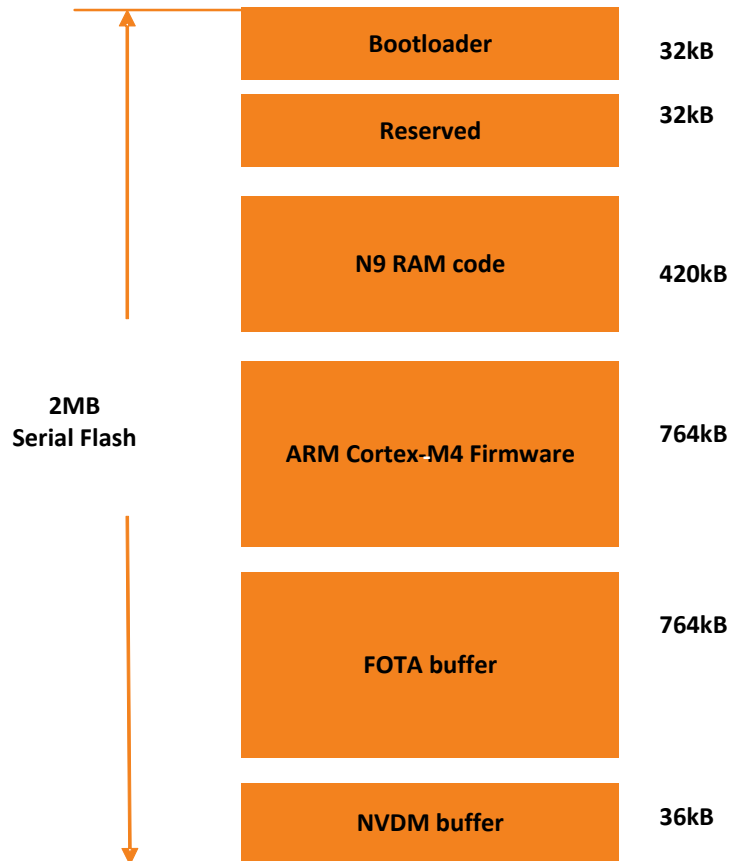

Figure 1. The load view of the 2MB flash memory layout
MT7687F has 2MB internal serial flash memory. The load view on the flash memory of the HDK is shown in Figure 1.
- **Non-Volatile Data Management (NVDM) buffer.** There are two blocks reserved for the NVDM buffer management. The first NVDM buffer after the Bootloader (see Figure 1) is not configurable, but the second NVDM buffer is configurable, see section 2.4, “Memory layout adjustment with a linker script” for more details.
NVDM buffer	The first NVDM buffer located after the Bootloader is not configurable, no need to modify. The second NVDM buffer starting address and size are configurable (see Figure 1).